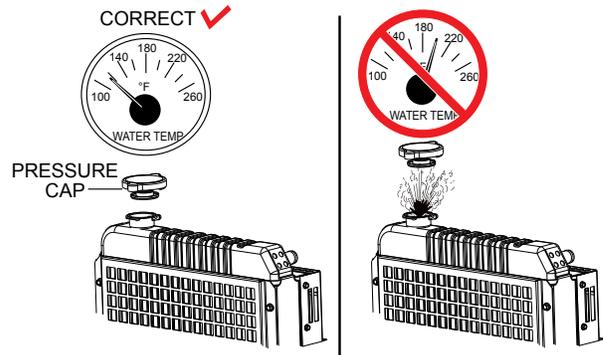

Figure 32. Radiator Pressure Cap Removal
1. Remove the radiator pressure cap (Figure 32) only if the coolant temperature is below 120°F (50°C).